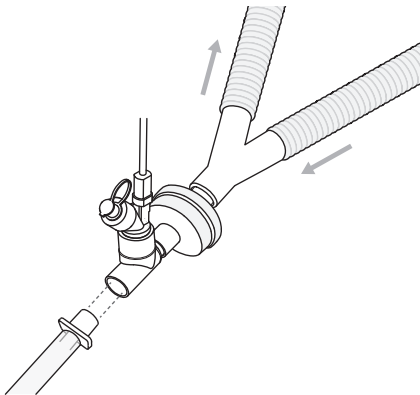

Figure 9. The Aerogen Solo placed between the HME and endotracheal tube.
4. Only a HME approved for use with a nebuliser should be used in this configuration (Figure 9). Follow the HME manufacturer instructions regarding use with a nebuliser. Ensure the total combined volume of nebuliser, T-Piece with or without a HME is suitable for the tidal volume being delivered. Do not use a nebuliser between the wye and neonate patient. Please refer to contraindication on page 4. See Table 3 for T-piece volumes.